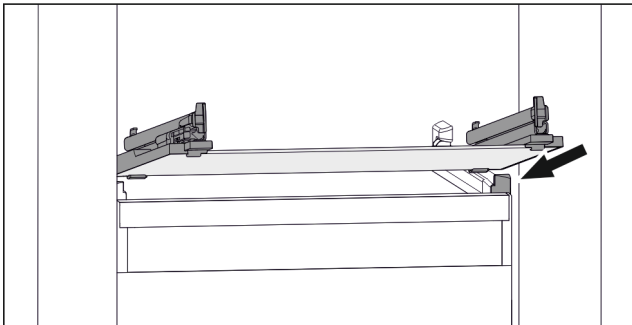

Fig. 177 Example illustration of glass shelf
- ▶ Position glass shelf at an angle behind the stoppers. (see Fig. 177)